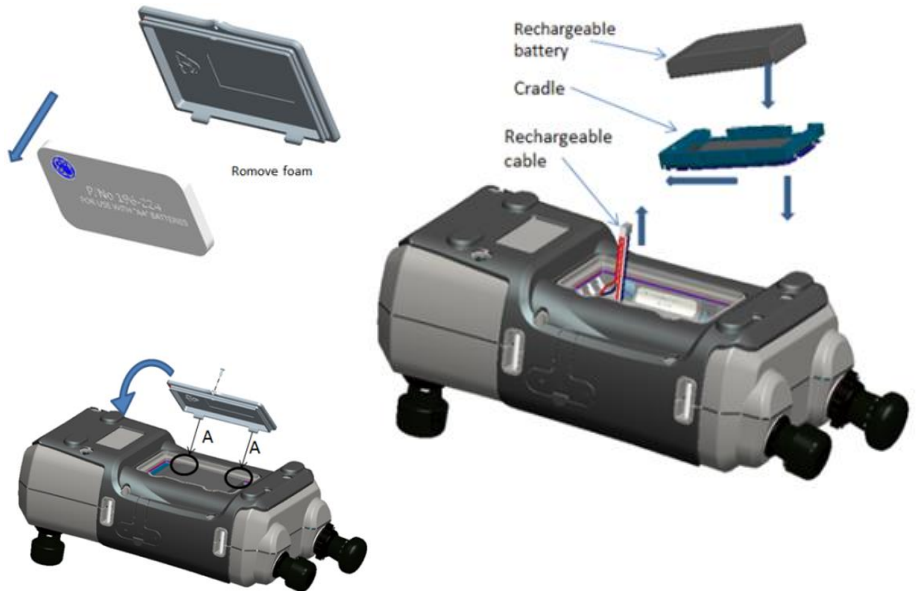

Figure 2 Fit Rechargeable Battery Kit
6. Refit the battery cover. Close the battery compartment by pressing the lugs inside the slots (A) and bring down the cover at an angle, securing by tightening the fixing screw. (See Figure 2).